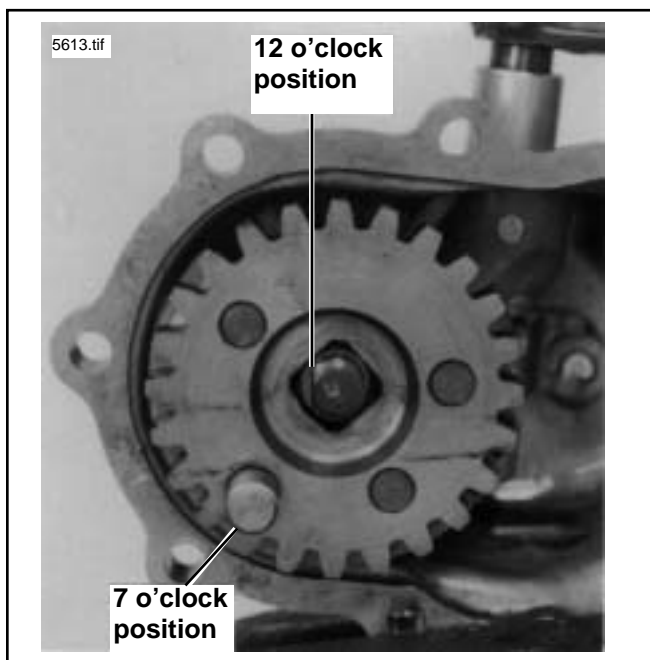

Figure 4. Installing Starter Crank Gear
16. See Figure 4. Install the starter crank gear assembly (14) on crankshaft (10). The gear must be installed so that the flat on the crankshaft is in the 12 o'clock position and the dowel pin in the 7 o'clock position.